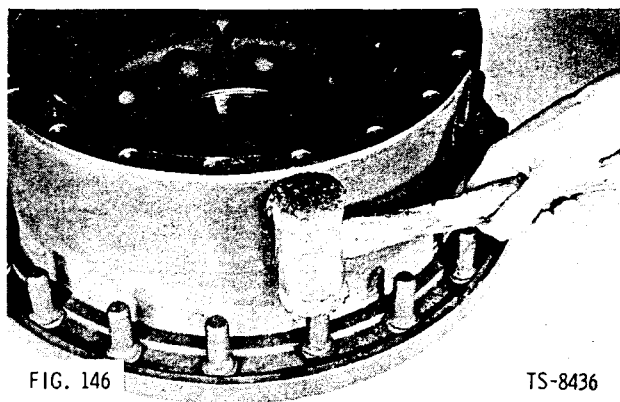

FIG. 146
- Tap wheel studs into place, taking care not to damage threads (Fig. 146). Secure with self-locking nuts torqued to 200 ft.-lbs.